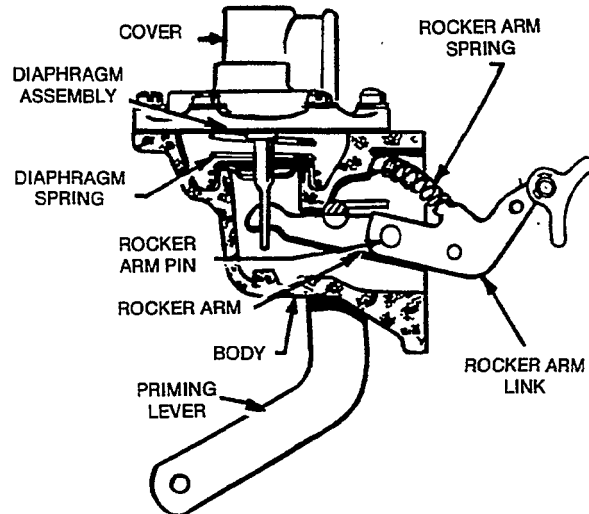

FIGURE 30. FUEL TRANSFER PUMP
The fuel transfer pump (Figure 30) is a diaphragm and check valve type pump operated by a cam lobe on the engine camshaft. The pump cam follower has a wide surface to prevent wear as it rides on the camshaft lobe. The priming lever is manually operated to prime and bleed the system.
2. Insert link and rocker arm into body and hook it over diaphragm pull rod. Align rocker arm with rocker arm pin hole and drive in pin. The priming lever must be in position shown in Figure 30 when installing rocker arm.